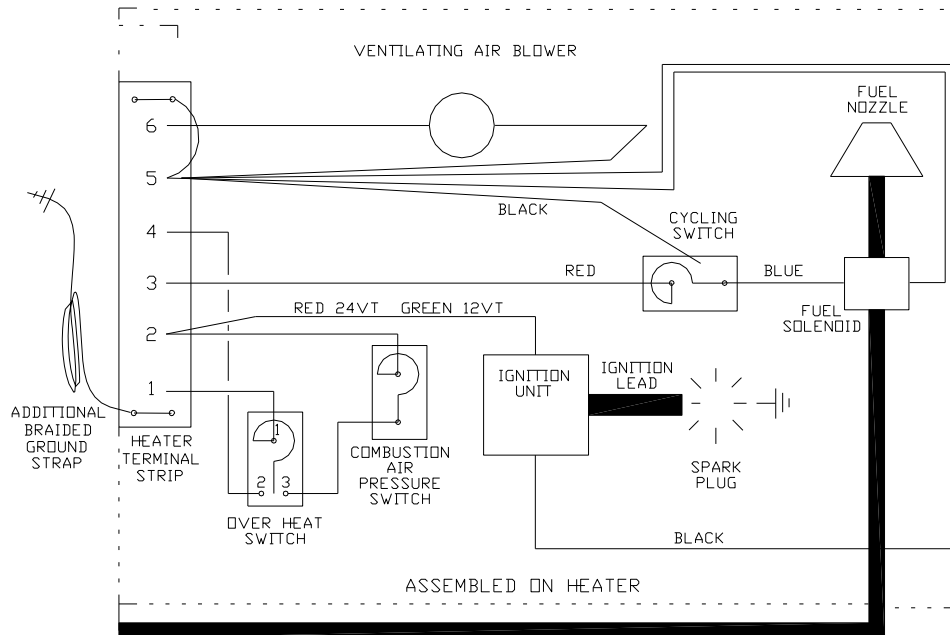

Figure 6: Wiring Schematic
- D. Restore electrical power to the airplane (Ref 24-36-00, 301, ELECTRICAL POWER – CONNECT) and verify wiring connections. See Figure 6.